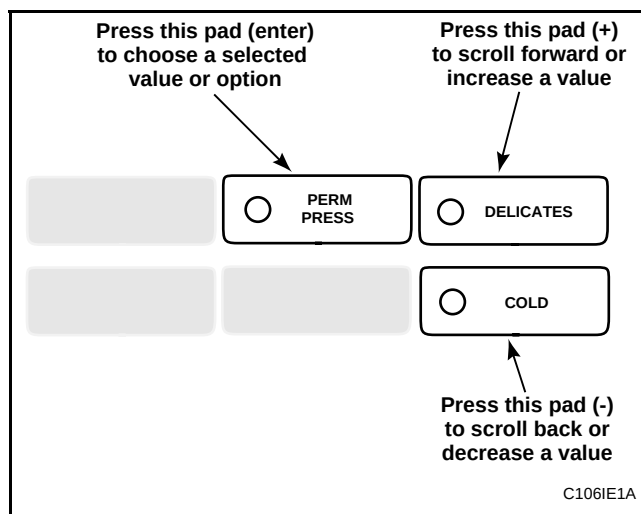

Figure 63
5. Press the DELICATES (+) or the COLD (-) keypad to increase or decrease the current number of minutes displayed in the VFD to the desired number of minutes. See **Figure 63**.